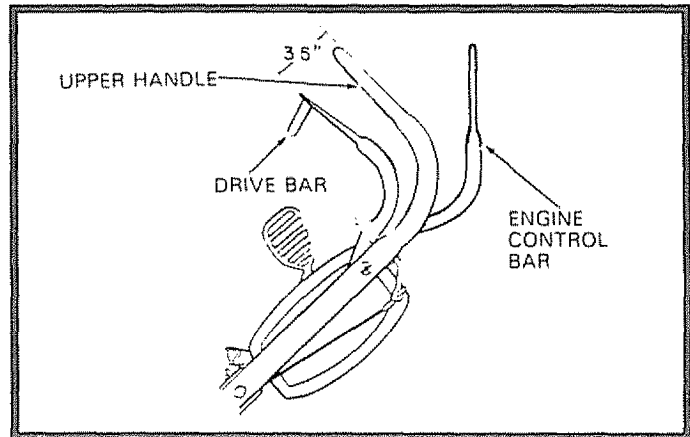

FIG. 26
- When Rear Wheels stop turning, hold the Drive Bar and check the dimension as shown in fig. 26.
- The Drive Control is properly adjusted when the measurement over the Handle and Drive Bar is approximately 3 1/2" (See Fig. 26). If the measurement is less than 3 1/2" adjust Drive Control Cable.